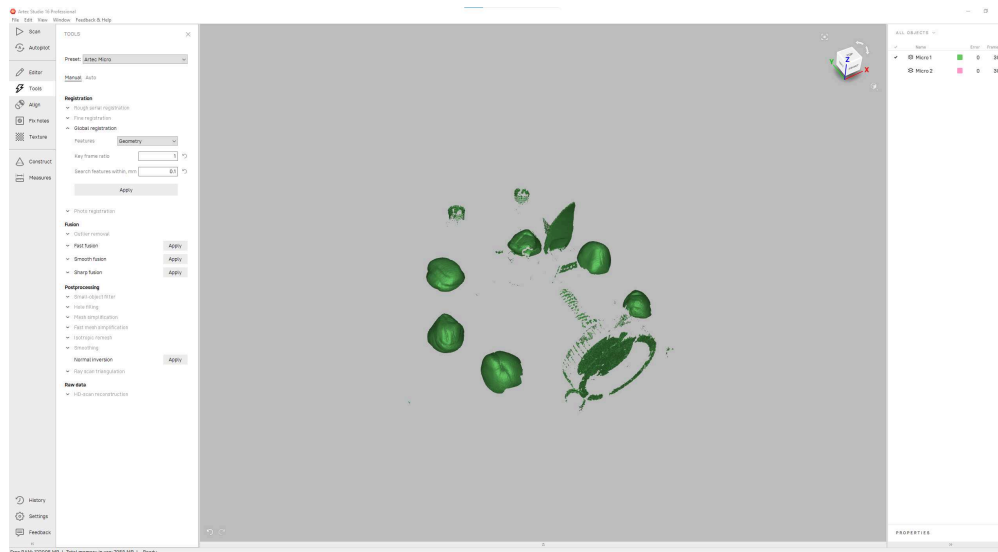

Fig. 8. The *Tool* panel in Artec Studio 16 Professional. In this case, the *Global registration* was done for each scan separately.
- 14 After completing the second scan, go to *Tools* and run a *Global registration* **for each scan separately**, by selecting one scan at a time. *Key frame ratio* should be set to 1 and *Search features within, mm* to 0.1 (Fig. 8).